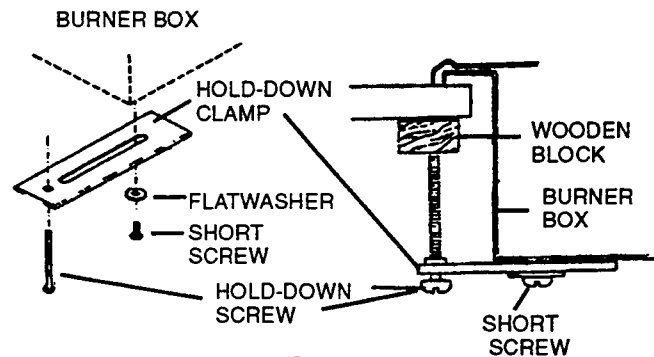
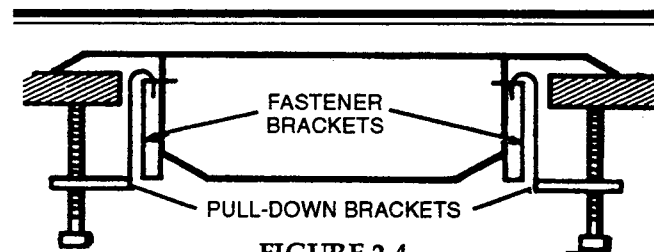
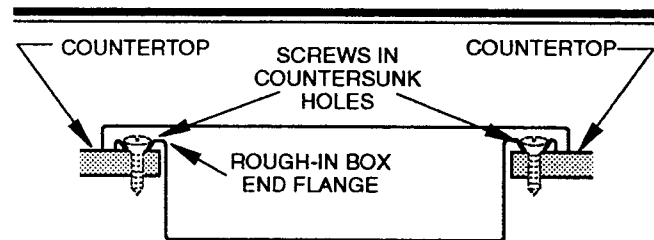

FIGURE 2-3
FIGURE 2-4
FIGURE 2-5
- From under the countertop, loosely install the four brackets to the burner box with the four flatwashers and short screws (see Figure 2-3 for "G" Series cooktops and Figure 2-4 For "P" Series cooktops). NOTE: If spacing prevents using brackets, drill 1/8" starter holes, and secure the rough-in box directly to the countertop with four oval-or flat-head screws (see Figure 2-5).
- Place short wooden blocks between the hold-down screws and the bottom of the counter (see Figure 2-3). Tighten the two screws at each hold-down bracket, and secure the cooktop to the countertop surface.
- Thread the hold-down screws into the hold-down or pull-down brackets, (Figures 2-3 & 2-4), and then tighten the two screws at each bracket until the cooktop is secured firmly to the surface of the countertop.